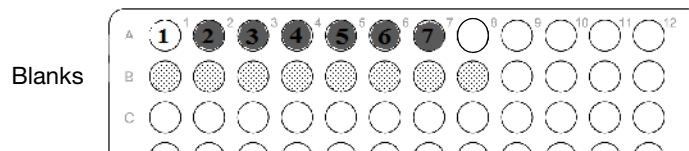

Figure 12 Row for blanks
2. Make blank: Add **200 μL** nuclease-free water to each well of empty row (Figure 12).